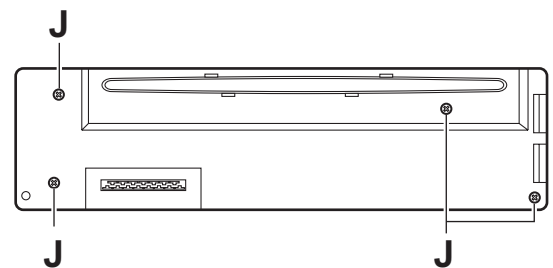

Fig.8
3.1.8 Removing the switch board (See Figs.8 to 10)
- Remove the four screws **J** on the back side of the front panel assembly. (See Fig.8.)